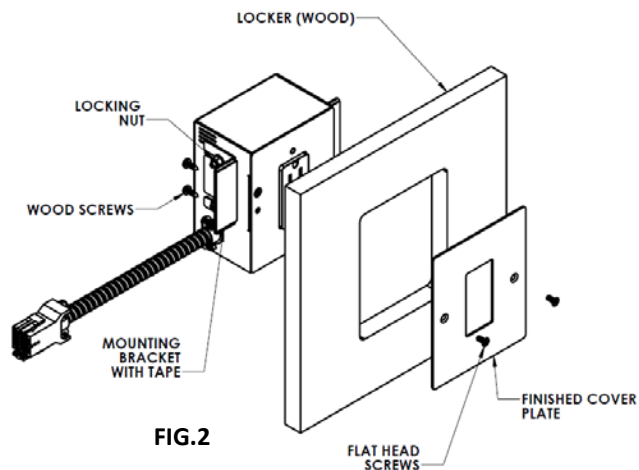

FIG. 2
- 3- Loosen the 4 Locking nuts on the mounting brackets (FIG.2). Expose adhesive back and press in place to seat tape.
- 4- Align the face of the unit with the inner surface of the Locker. Snug the Mounting bracket against the back panel and insert the 4 wood screws (B). \*Do not pierce finished surfaces. Confirm inner surface alignment and tighten the Locking nuts. Take care not to over tighten.
- 5- Attach the finish cover plate via the two center holes on the power unit using the two screws(C) removed in step 1 (FIG.2).